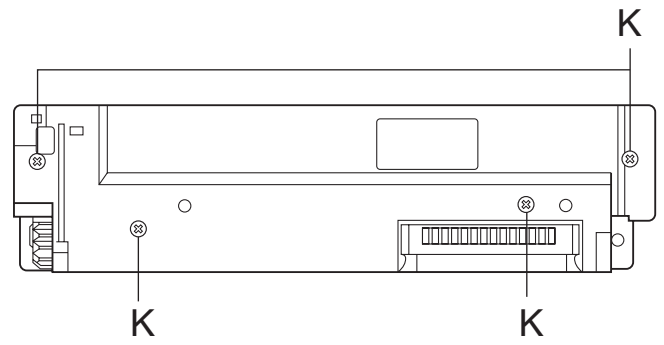

Fig.11
2.1.8 Removing the front board (See Figs.11 to 13)